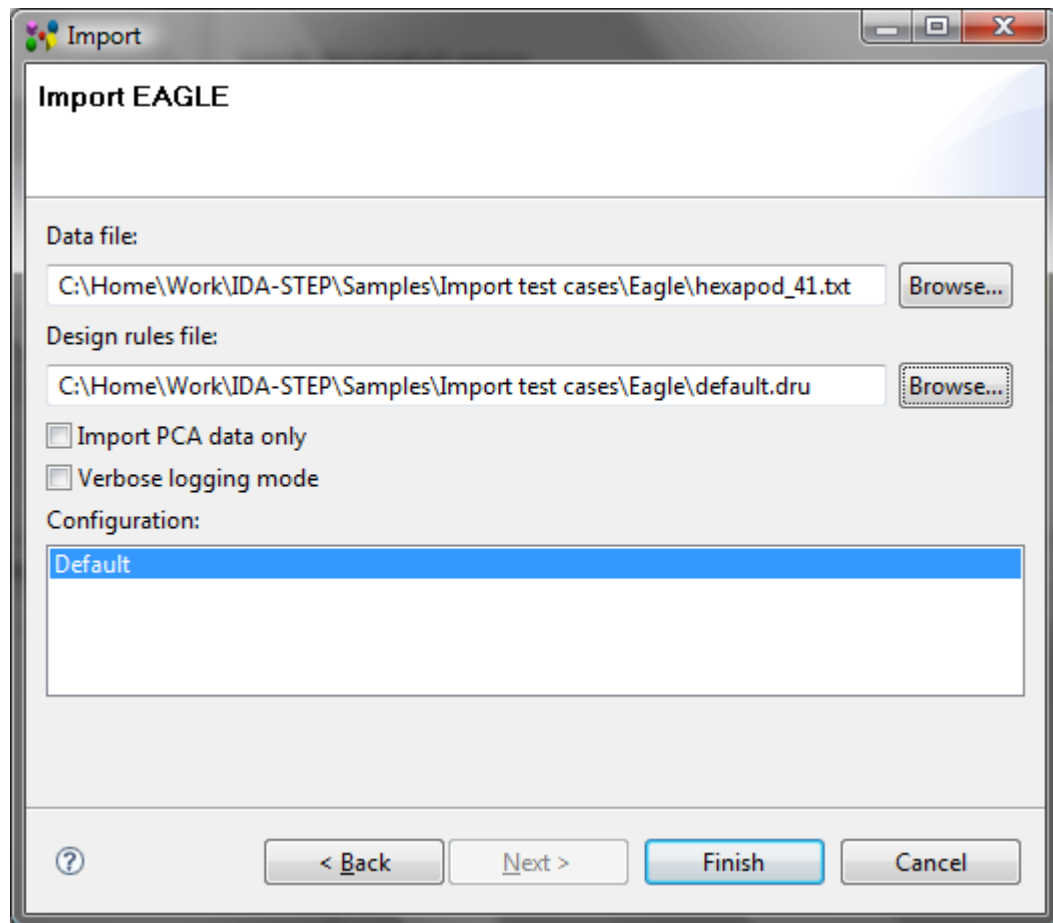

Figure 1. Import EAGLE wizard
- Select **Electronics ->  EAGLE** in the appeared **Import** wizard page and press **Next** button. The **Import EAGLE** wizard page appears on the screen (see Figure 1):